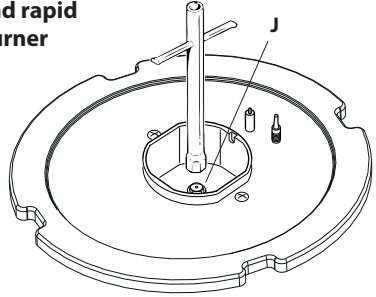

Fig. 31
- Using a wrench, substitute the injectors "J" (figs. 31, 32, 33) with those most suitable for the kind of gas for which it is to be used.